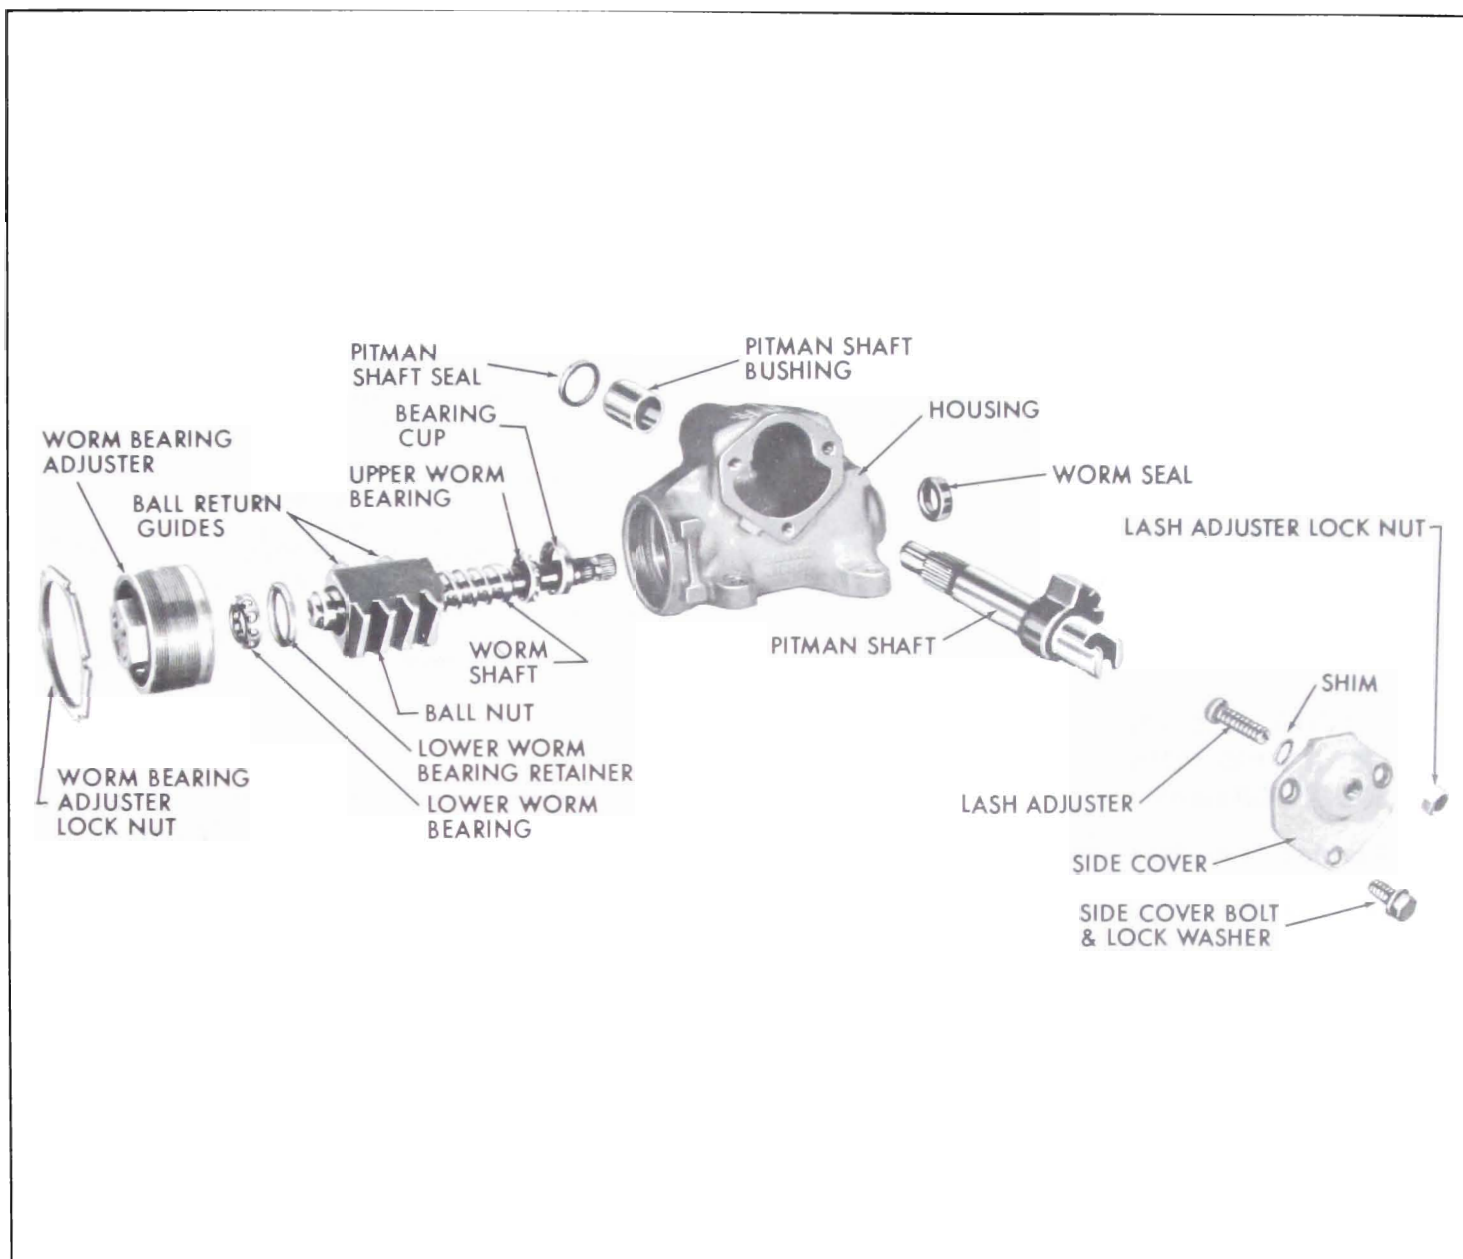

Figure 8-17—Manual Steering Gear (Exploded View)
**NOTE:** It is not necessary to disassemble gear to replace worm shaft seal. Remove worm seal with awl being careful not to damage housing or shaft and install a new seal with Installer J-8564. See Figure 8-17.